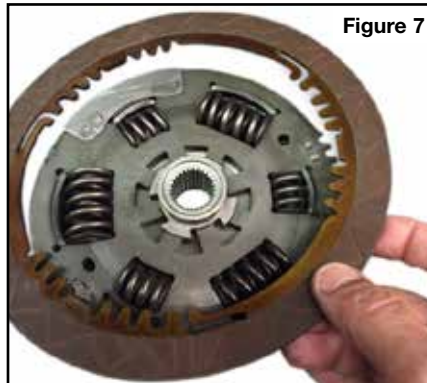

Figure 7
NOTE: It takes some practice to remove the OE clutch plate from the damper. Start by lifting clutch plate at a diagonal across from the still secured plate (Figure 7).
- Assemble Sonnax clutch plate ZF-CP-13 to OE damper by aligning the two fingers shown (**Figure 7**) and attaching to the right of the third and still secured plate.